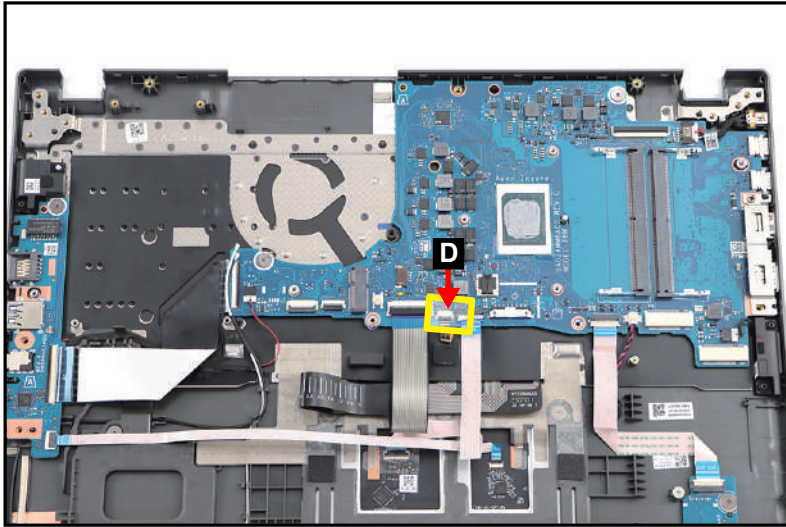

Figure 3-62. Mainboard Removal
3. Detach the mylar (D) securing the keyboard backlight FPC connection (Figure 3-62).